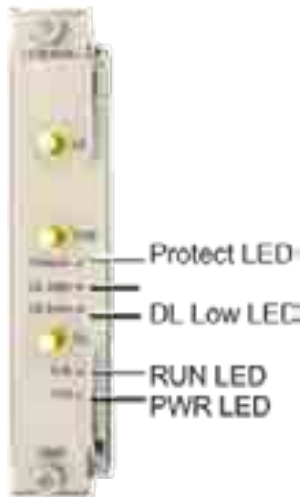
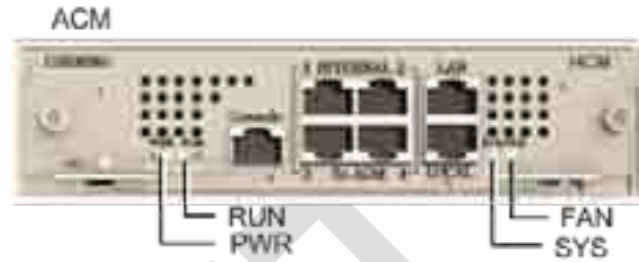

Figure 5-20. RIM LEDs
Figure 5-21. HCM/ACM LEDs
2. If RF source is operational, verify that the RIM (see Figure 5-20) and HCM/ACM (see Figure 5-21) LEDs indicate normal operation according to Table 5-4: